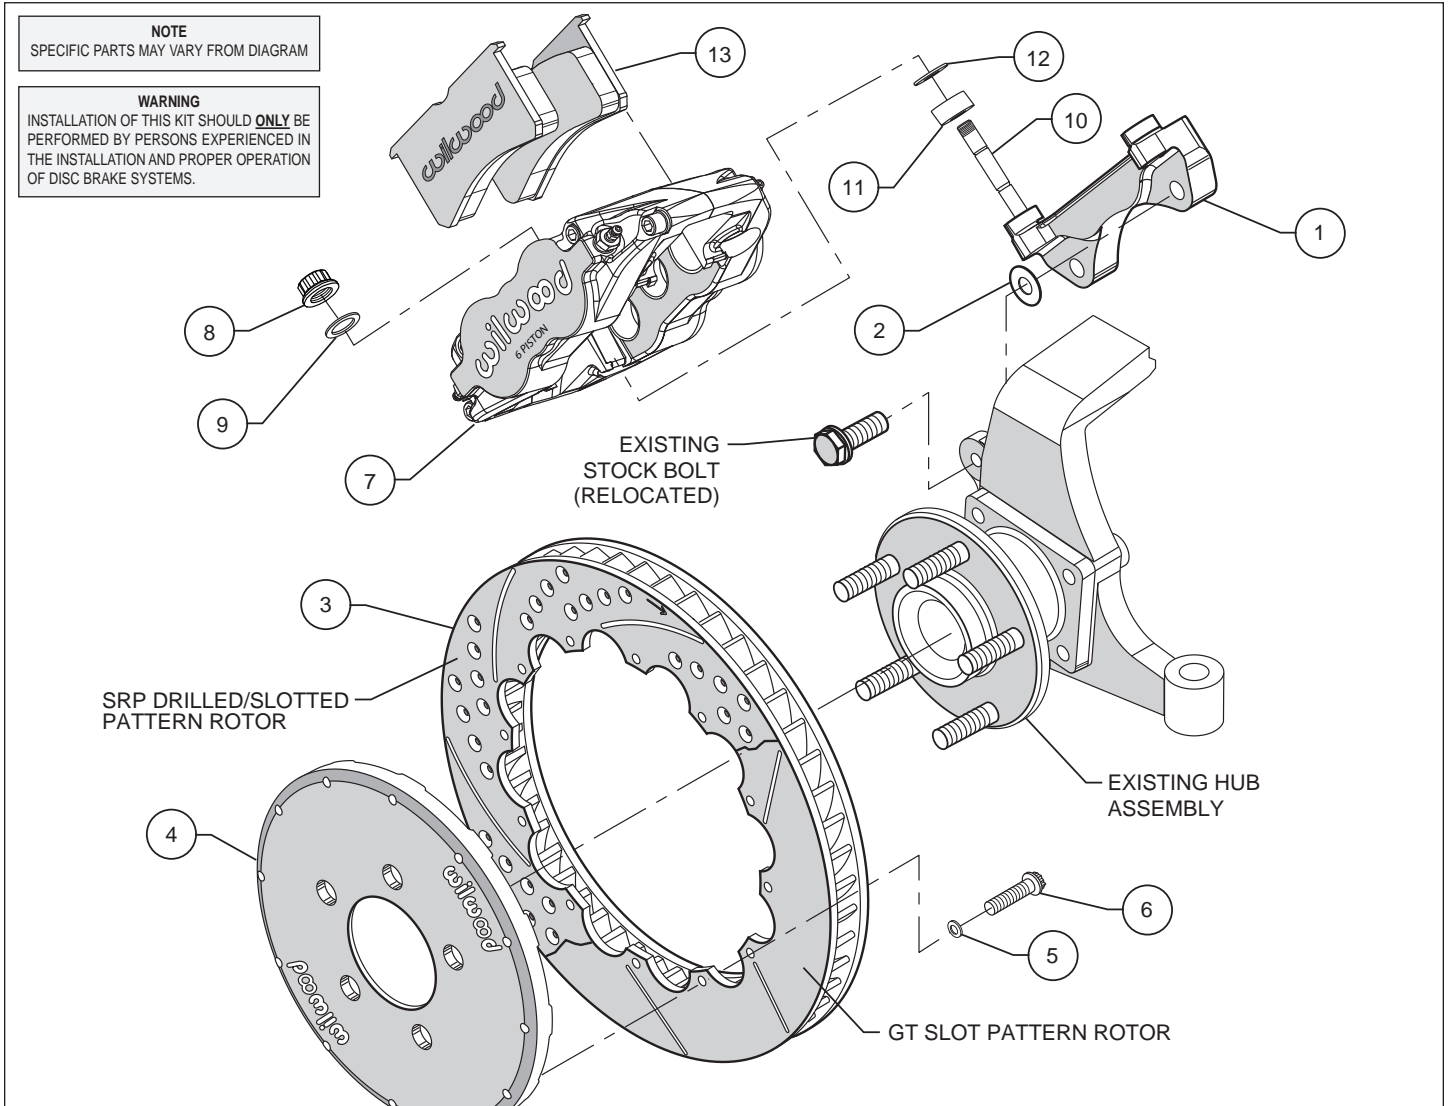

Figure 1. Typical Installation Configuration
- The caliper mount bracket assembly (1) should be installed first with clean, dry threads on the mounting bolts. Install the bracket using the original caliper mount bolts. The bolts will now pass through the spindle from the opposite direction that they were removed as shown in Figure 1 and Photo 1. Use one thin shim (2) between the bracket and spindle during initial trial fitting, Figure 1 and Photo 2. The bracket must tighten squarely against the inboard side of the caliper mount bosses on the spindle body, Photo 3. Inspect for interference from casting irregularities, machining ridges, burrs, etc. Later, after the caliper, pad, and rotor alignment have been checked, and any necessary shims have been put in place, the mount bolts should be coated with red *Loctite*® 271 and torqued to 65 ft-lbs.
- Orient the rotor (3) and hat (4) as shown in Figure 1 and Photo 4. Attach the rotor to the hat with bolts (6) and washers (5). Be sure all bolts thread in smoothly and are snug. Using an alternating sequence, apply red *Loctite*® 271 to the threads and torque bolts to 155 **in-lbs**. For an added measure of security, the bolts may be safety wired using standard 0.032 inch diameter stainless steel safety wire as shown in Figure 3. Please refer to Wilwood's data sheet DS-386 for complete
- NOTE:** This kit contains distinct right and left hand calipers that must be mounted in a specific direction, as described below. Lubricate the caliper mounting studs (10) with lightweight oil. Initially place one .035" thick shim (12) and spacer (11) on each stud as shown in Figure 1 and Photo 6. Mount the caliper (7) onto the bracket (1) using lock nuts (8) and washers (9), Figure 1 and Photo 7. Ensure that the caliper is mounted so that the largest pistons are at the rotor exit end of the caliper, in relation to the direction of rotor rotation. Temporarily tighten the lock nuts and view the rotor through the top opening of the caliper. The rotor should be centered in the caliper. If not, adjust by adding or subtracting shims (2) between the bracket and the upright. Always use the same amount of shims on each of the two mounting bolts. Once the caliper alignment is correct, remove the bracket mounting bolts one at a time, apply red *Loctite*® 271 to the threads, and torque to manufacturer's specifications.